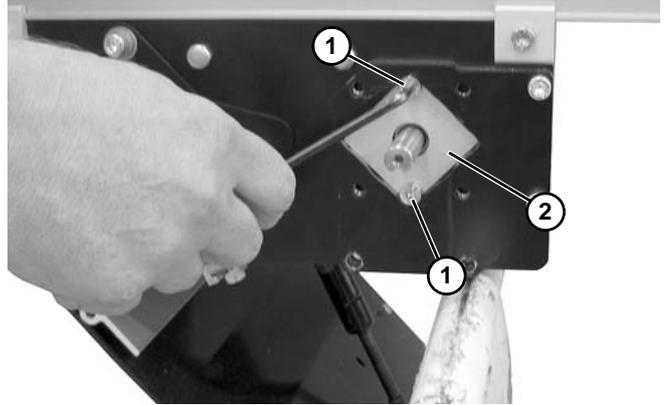
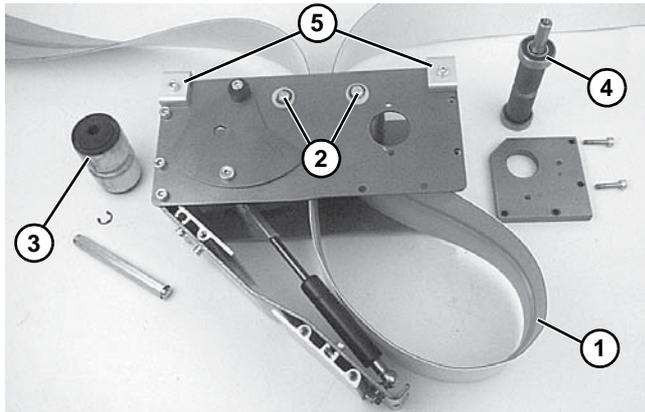

Figure 39
Figure 51
1. Remove screws (**Figure 39, item 1**) and remove spindle bearing block (**Figure 39, item 2**).
- Place loop of belt (**Figure 51, item 1**) into the drive module between top idler pulleys (**Figure 51, item 2**).
- Place grooved idler pulley (**Figure 51, item 3**) into the belt loop and install it in the drive module. Refer to “Belt Removal from Drive Module” on page 20 and reverse step 3.
- Place drive pulley (**Figure 51, item 4**) into the belt loop and install it in the drive module. Refer to “Belt Removal from Drive Module” on page 20 and reverse steps 1 and 2. Tighten screws (**Figure 39, item 1**) to 6.8 Nm.
- Install the drive module onto the conveyor and attach clamps (**Figure 51, item 5**) in each corner. Tighten screws to 6.8 Nm.